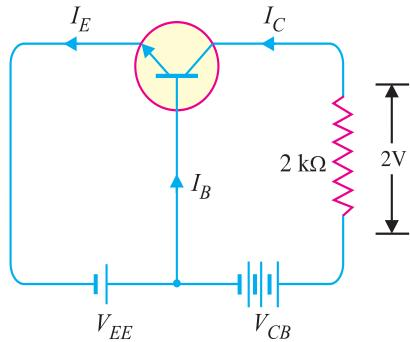

Fig. 8.12
**Solution.** Fig. 8.12 shows the required common base connection. The voltage drop across  $R_C (= 2\text{k}\Omega)$  is 2V.